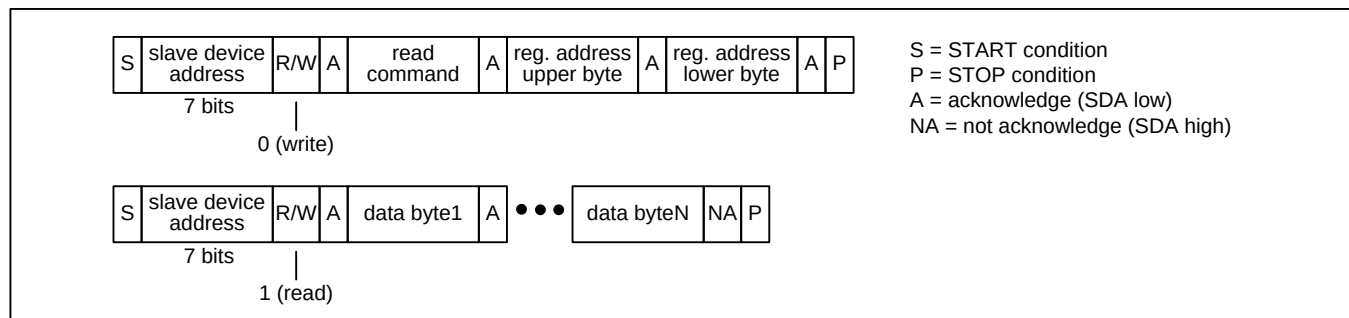
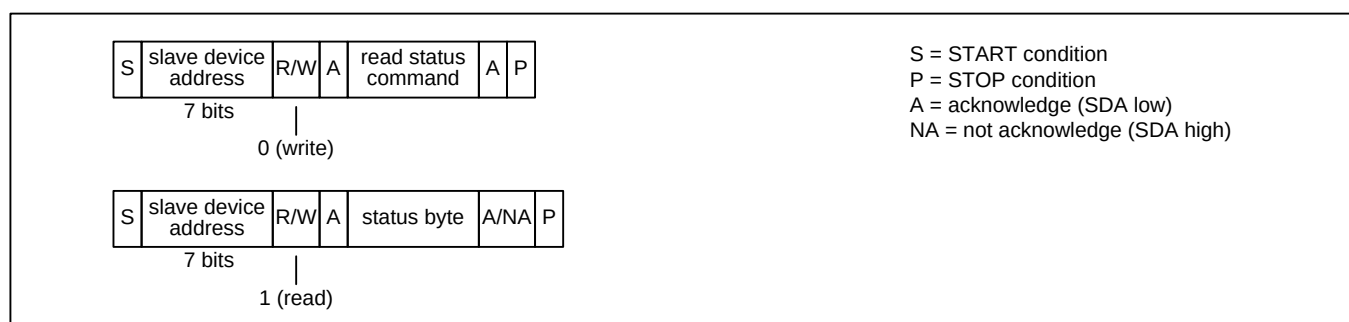

Figure 7 – I²C Read Transaction Functional Timing
Figure 10 – I²C EEPROM Read Status Transaction Functional Timing
Read Transactions. The device registers are accessible when $\overline{ESEL}=0$. The internal EEPROM memory is accessible when $\overline{ESEL}=1$. The bus master first does an I²C write to the device. In this transaction three bytes are written: the SPI Read command (see Table 3), the upper byte of the register address, and the lower byte of the register address. The bus master then does an I²C read. During each acknowledge (A) bit the device fetches data from the read address and then increments the read address. The device then transmits the data to the bus master during the next 8 SCL cycles. The bus master terminates the read with a not-acknowledge (NA) followed by a STOP condition (P). See Figure 7. Note: If the I²C write is separated in time from the I²C read by other I²C transactions then the device only outputs the data value from the first address and repeats that same data value after each acknowledge (A) generated by the bus master.
EEPROM Read Status. The bus master first does an I²C write to transmit the SPI Read Status command (see Table 3) to the device. The bus master then does an I²C read to get the status byte. In this byte, the least significant bit is set to 1 if the transfer is still in progress and 0 if the transfer has completed. See Figure 10.
Note: In Figure 7 through Figure 10, a STOP condition (P) immediately followed by a START condition (S) can be replaced by a repeated START condition (Sr) as described in the I²C specification.